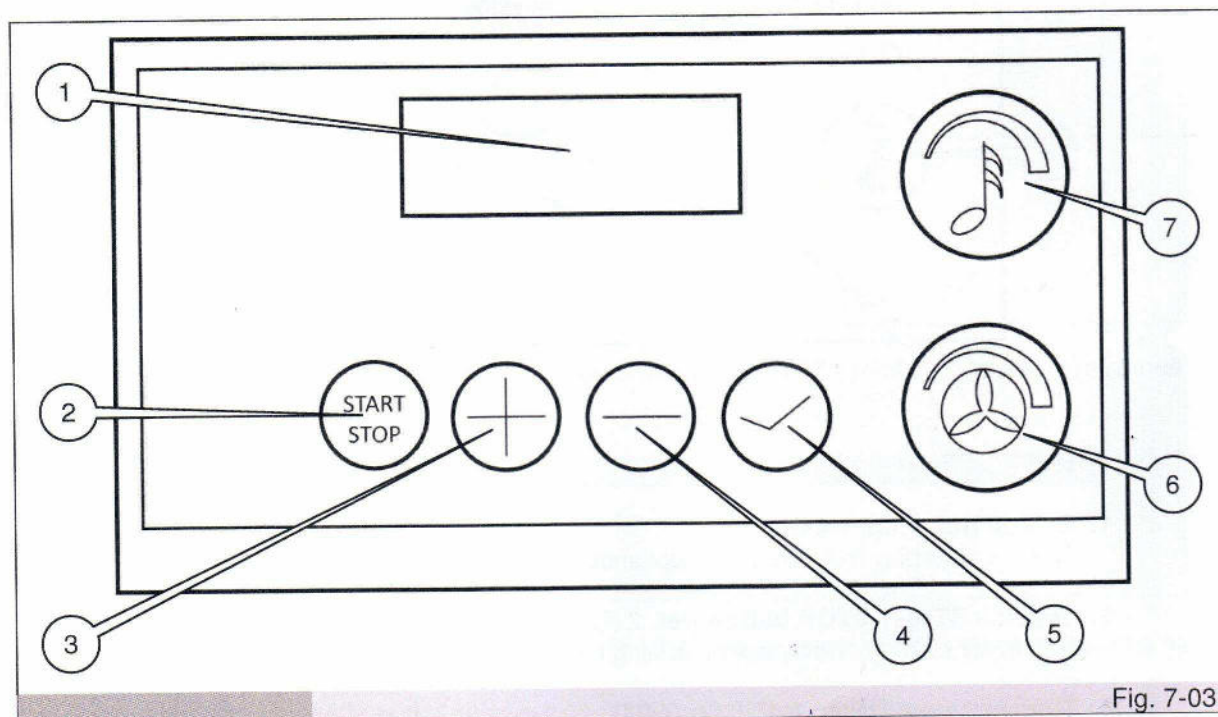

Fig. 7-03
1. **Screen (ref. 1 fig. 7-03).**
2. **Session START/STOP button (ref. 2 fig. 7-03).**
3. **Time increase button (ref. 3 fig. 7-03).**
4. **Time decrease button (ref. 4 fig. 7-03).**
5. **Section confirmation button (ref. 5 fig. 7-03).**
6. **Cabin ventilation control (ref. 6 fig. 7-03).**
7. **Volume control (ref. 7 fig. 7-03) (optional).**